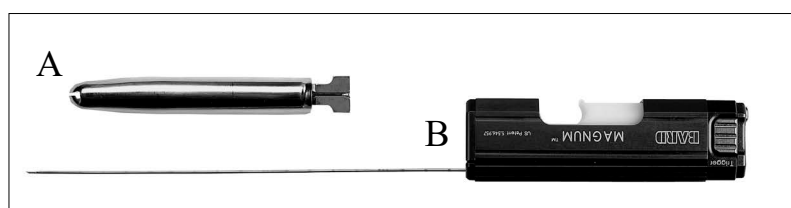

Fig. 3. The puncture attachment UA1256 and Bard® Magnum® biopsy gun
- a metal puncture attachment UA1256 (item A in Fig. 3.) or single use plastic puncture attachment UA1256-U;
- a re-usable biopsy gun, for example a Bard® Magnum® biopsy gun (item B in Fig. 3.);
The biopsy system shown in Fig. 3. is intended for transrectal puncture and biopsy only.